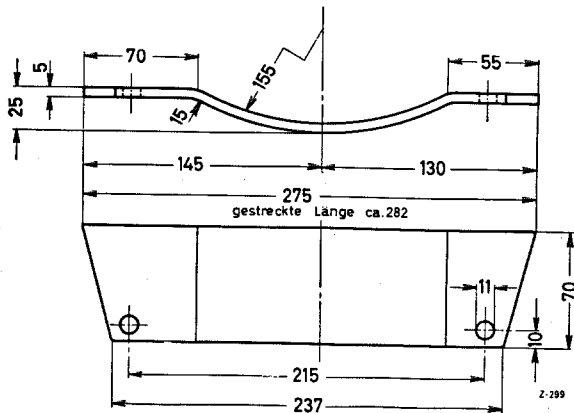

Fig. 33—1/5
**Note:** The supporting bracket can easily be made in the workshop (Fig. 33—1/5).